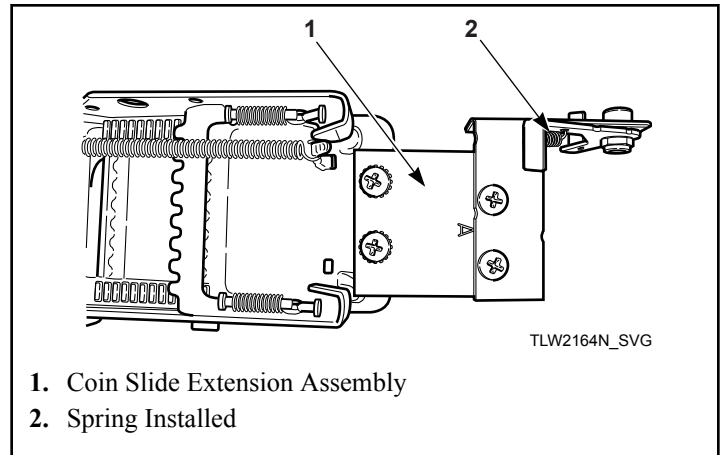

Figure 17
6. Install coin slide extension assembly onto top of coin slide using two remaining screws and lockwashers. Place lockwasher under head of screws, above bracket "A". Refer to *Figure 17*.
3. Install slide extension onto top of coin slide using two screws. Refer to *Figure 17*.